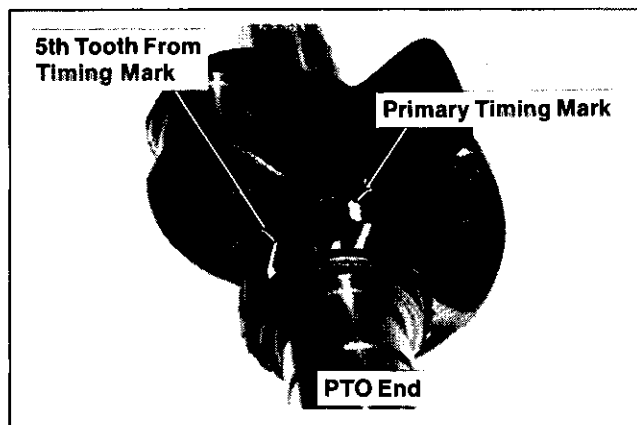

Figure 12-18. Marking Tooth On Crankshaft Gear.
Crankshaft - Locate the primary timing mark on crankshaft. While looking at the PTO end of crankshaft, start with the tooth directly below timing mark and count **five (5)** teeth in a **counterclockwise** direction. Mark the fifth tooth. Refer to Figure 12-18.